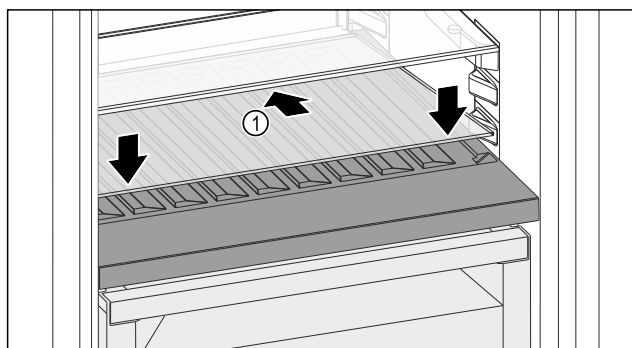

Fig. 216
- Place the glass shelf Fig. 216 (1) at an angle, sloping it downwards and backwards.
- Lower the glass shelf Fig. 216 (1) at the front.